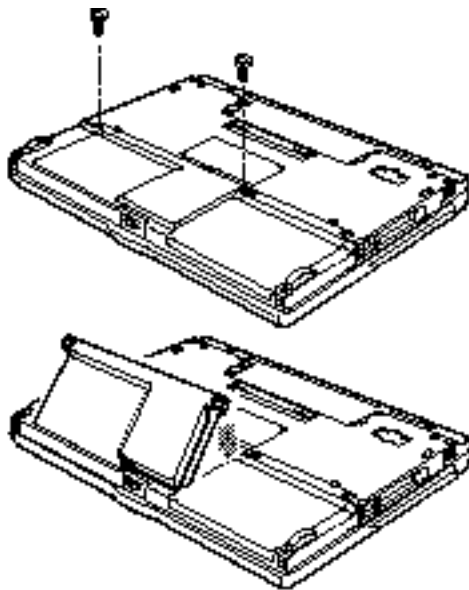

Figure 4-15 Removing and Installing an Internal Battery
3. Remove the screws of the internal battery compartment. (Figure 4-15.)
1. Remove the screws of the internal battery compartment. (Figure 4-15.)